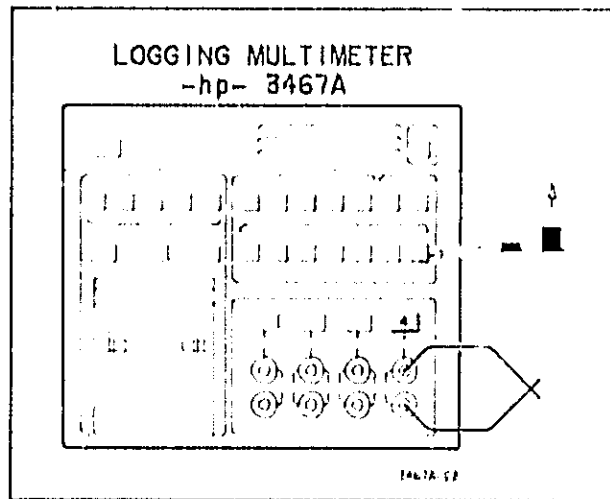

Figure 3-18. Entering Lead Error as Reference.
- b. Perform a measured reference operation, storing the offset as the reference value. This is illustrated in Figure 3-18.